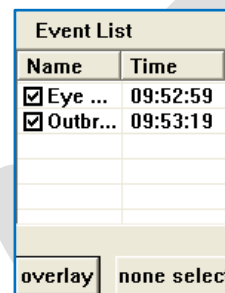

Fig 5-16 Superposition Events List
- a) **Superposition Events List:** View all the superposition events and select the time point of the superposition event (See Fig. 5-16).